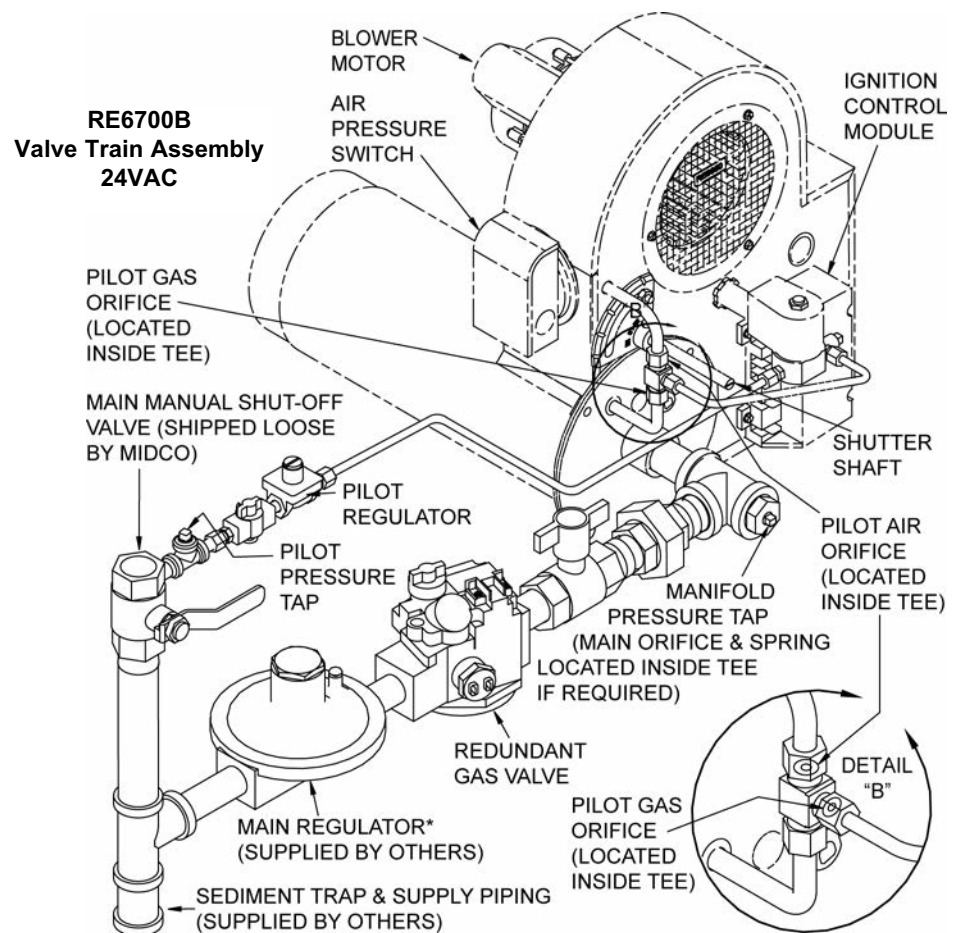

Figure 5: Piping Diagram for RE6700B - 24V
- If the burner piping must be rearranged because of space limitation, be sure to carry out the general arrangement shown in Figure 5. Refer to valve and regulator manufacturers specifications for acceptable mounting orientation.